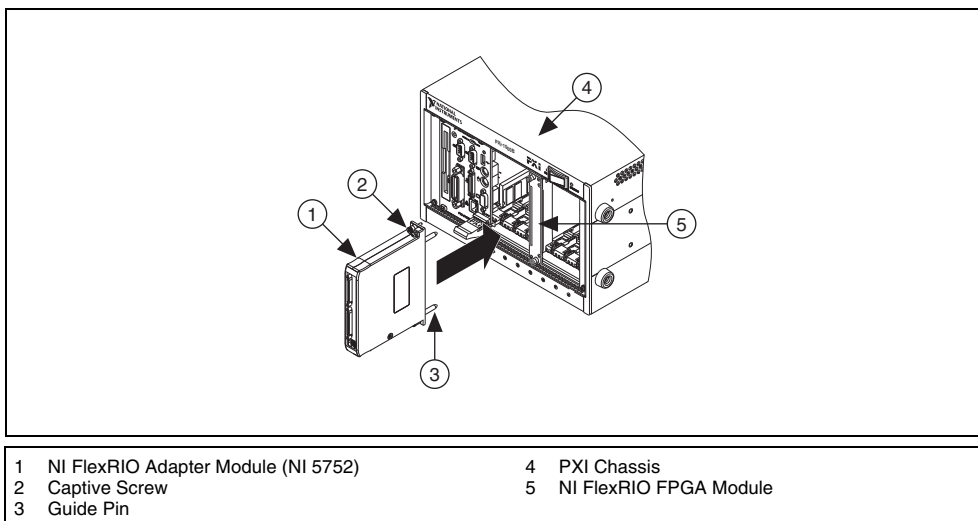

Figure 4. Installing the NI 5752
1. Gently insert the guide pins and the high-density card edge of the NI 5752 into the corresponding connectors of the NI FlexRIO FPGA module, as shown in Figure 4. The connection may be tight, but do *not* force the adapter module into place.